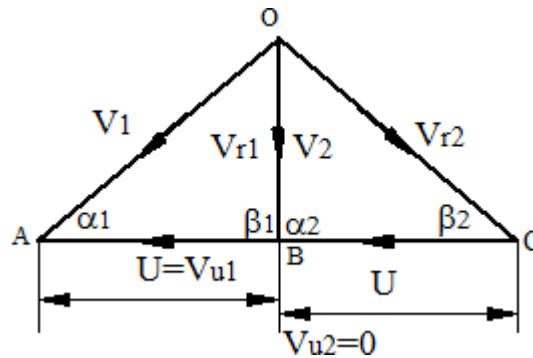

Fig. 3.14 Velocity diagram of an axial flow 50% reaction turbine for maximum utilization
**Answer:** For an axial flow 50% reaction turbine  $V_1=V_{r2}$  and  $V_2=V_{r1}$  and also  $\alpha_1=\beta_2$  and  $\alpha_2=\beta_1$ . The velocity diagram of this turbine for maximum utilization is as shown in figure 3.14.
From 50% reaction turbine velocity diagram for maximum utilization (Fig. 3.14)